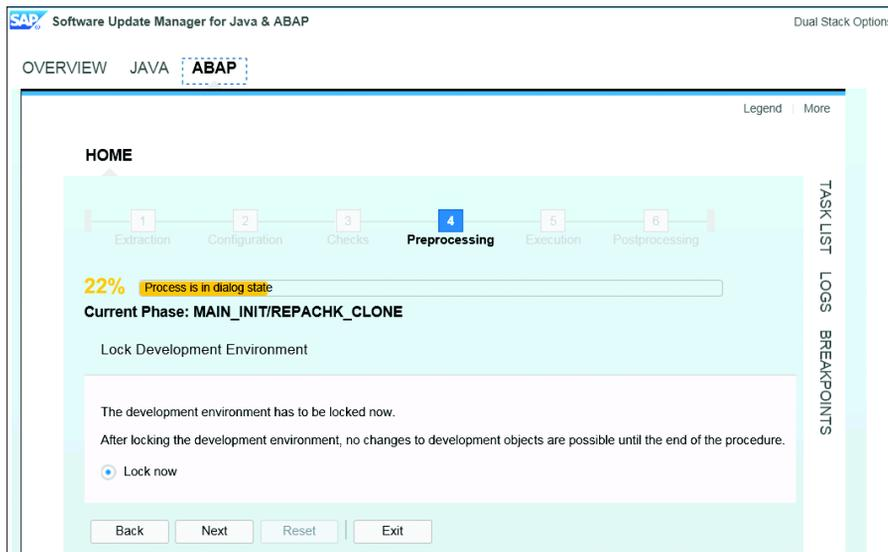

Figure 61 Lock the System Down
8. On the ABAP side of the preprocessing phase, request permission to lock the development environment of SAP SolMan (see Figure 61). This means no changes can be made to the system when you proceed. Click NEXT when finished.